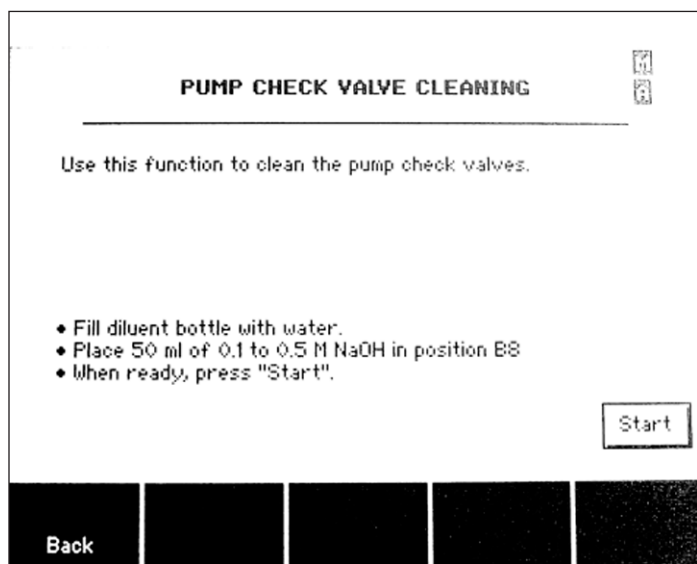

Fig. 9.13. Pump Check Valve Cleaning screen.
4. Follow instructions displayed on the screen (Figure 9.13).